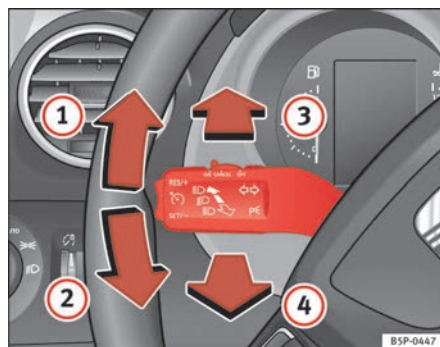

Fig. 77 Indicator and main beam lever
- Move the lever all the way up \Rightarrow page 118, fig. 77 ① to indicate **right**, and all the way down ② to indicate **left**.
- Press the lever forward \Rightarrow page 118, fig. 77 ③ to switch on the main beams.